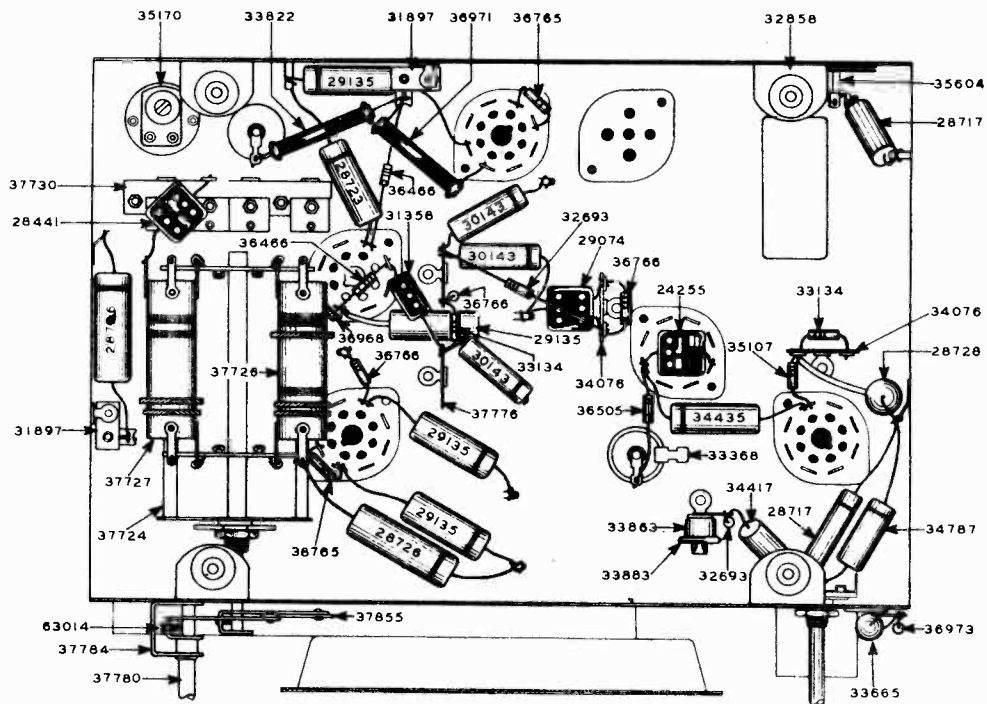

FIG. 2
(F) Adjust Antenna Trimmer, (A13) Fig. 2, to maximum output.
(D) Adjust the Oscillator Trimmer, (A14) Fig. 2, to maximum output.
(E) Adjust the Detector Trimmer, (A15) Fig. 2, to maximum output.
(F) Adjust the Antenna Trimmer, (A16) Fig. 2, to maximum output.